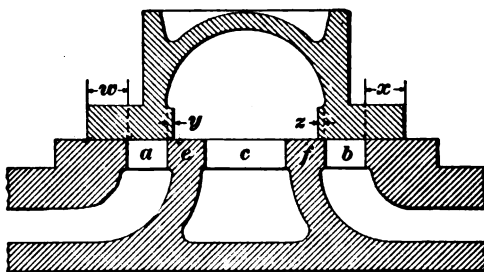

FIG. 37.
**41. Construction.**—A section of a **D** slide valve is shown in Fig. 37 in its central position, that is, in such a position that the center line of the valve coincides with the center line of the exhaust port *c* in its seat.
of different proportions (relative to the arrangement of the ports) from that shown in Fig. 4, Part 1. A locomotive slide valve is shown in Fig. 37; it will be seen that the flanges are made considerably wider than the width of the ports  $a$  and  $b$ , instead of being of the same width as in the valve just referred to. The inside edges have only been slightly extended, so that the valve overlaps the bridges but a small amount; the outside edges of the flanges, on the other hand, have been extended until the flanges overlap the ports considerably.
The slide valve shown in Fig. 4, Part 1 has neither inside nor outside lap; that shown in Fig. 37 has both inside and outside lap. The valves on some engines have outside lap, but no inside lap—the inner edge of the valve in that case being flush with the inner edge of the steam port, as in Fig. 4, Part 1. On other engines, the inner edge of the valve is cut away so that there is a space between the edge of the valve and the edge of